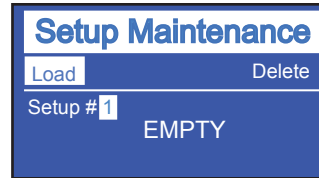

Figure 5-17 Setup Maintenance - 1
1. When the SETUP key is pressed for the first time, the display looks like Figure 5-17. This screen indicates that Setup #1 is Empty. Because there is not yet any data available, this setup has nothing in it, and is empty. You will see that Load is highlighted.